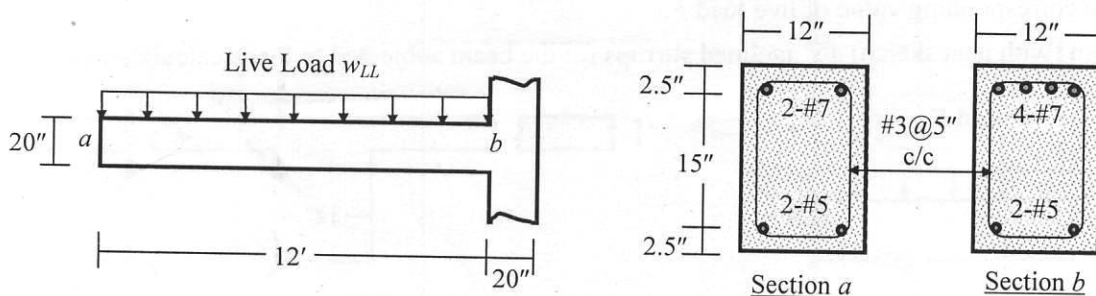

Fig. 6
10. For the cantilever beam  $ab$  shown in Fig. 6, use the WSD to